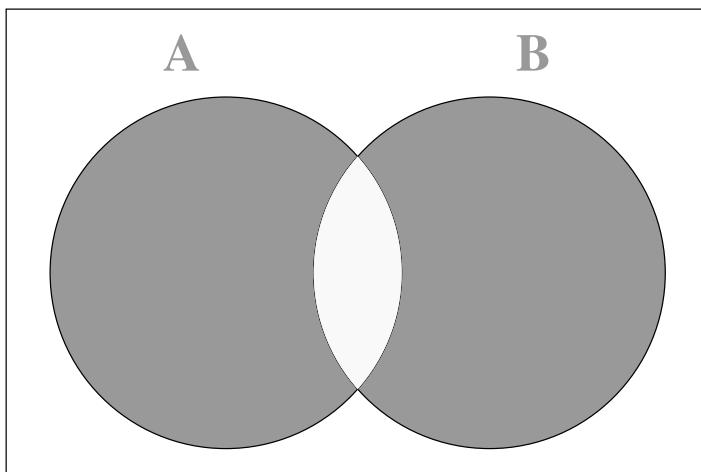

Fig. 4.30: Venn Diagram
49. The Boolean expression for the shaded regions as shown in Fig. 4.30 is _____.